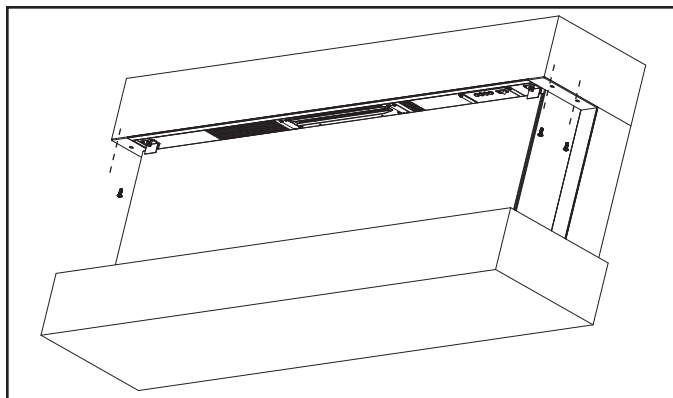

Figure 22
11. Secure the top mantel to the side brackets using two (2) M6\*16 screws on each side. See Figure 22.